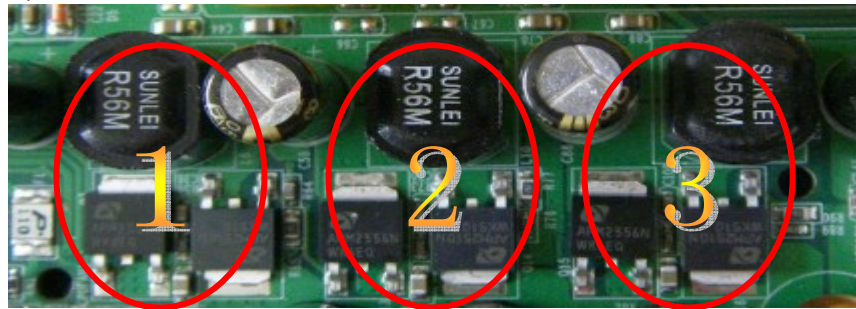
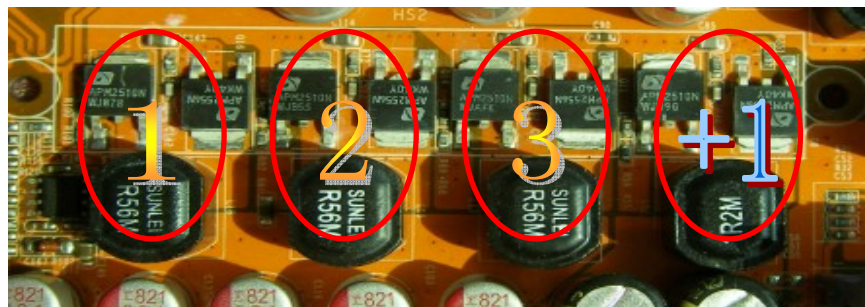

Figure 1
Figure 2
2. 3- Phase Power Supply Mold: motherboard with 3 inductances for CPU power supply, and each inductance carries with it 2 MOSFET (6 MOSFETs in total) (Figure1); 3+1–Phase Power Supply Mold: motherboard with 4 inductances for CPU power supply, and each inductance carries with it 2 MOSFET (8 MOSFETs in total) (Figure2)